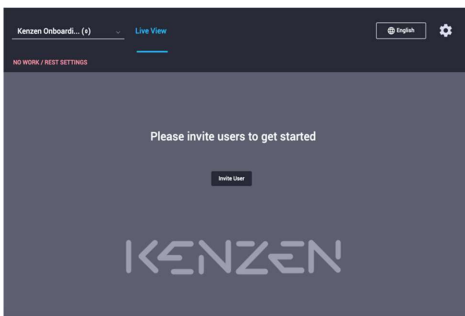

Figure 40: Team Dashboard
10. A new team is created. Team members will appear when the team is selected from the drop-down menu of the main dashboard window (Figure 40).